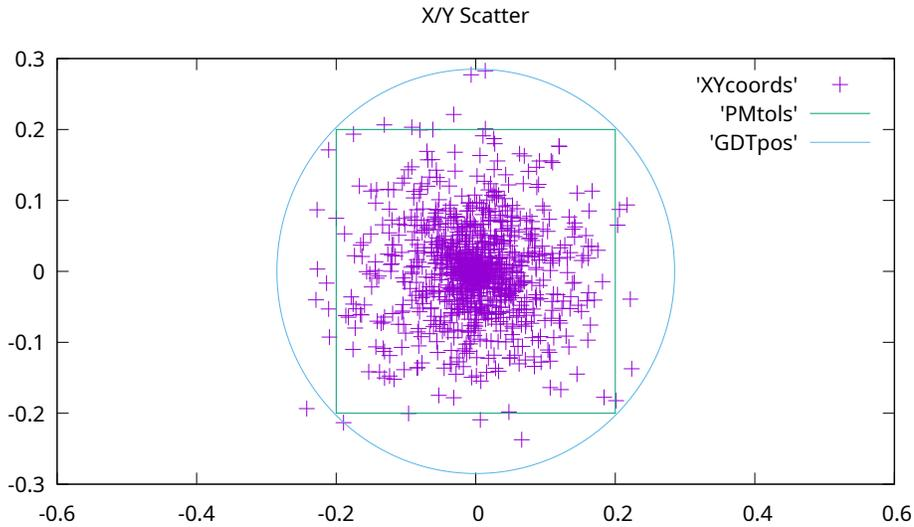
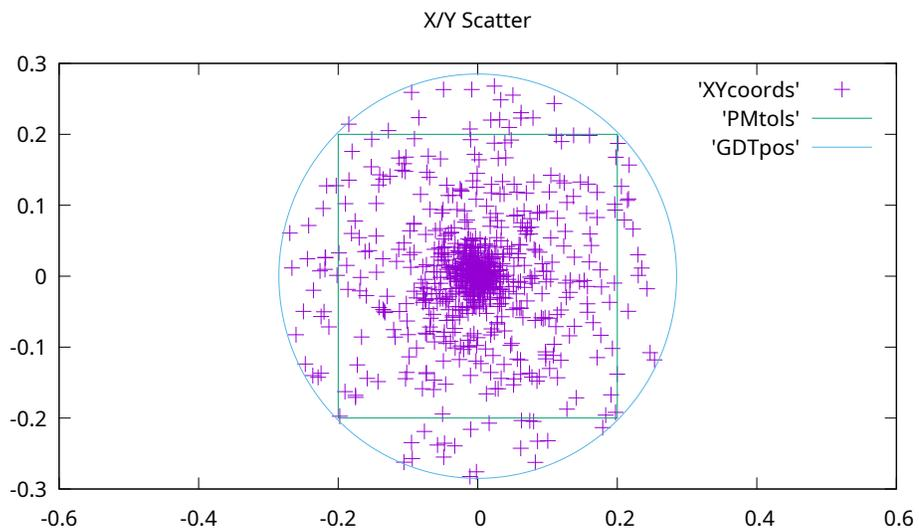
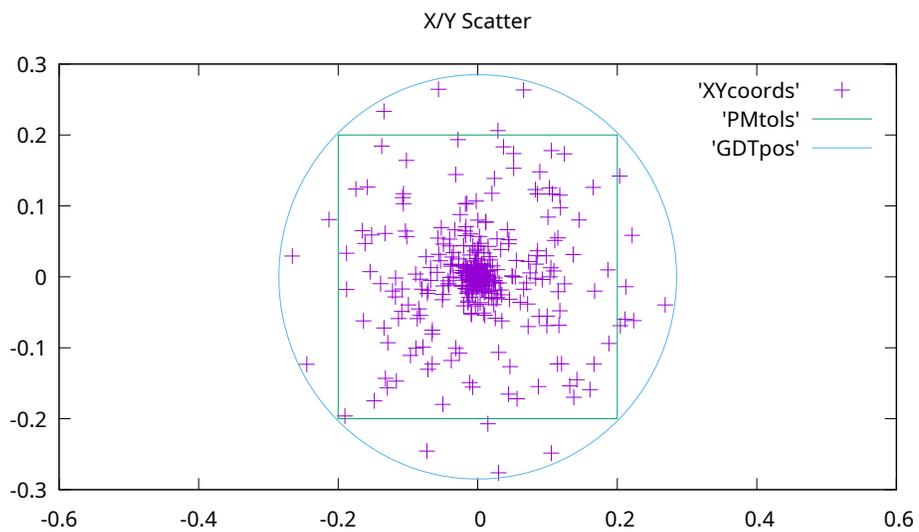

Figure 2: Normal Scattered Data
Figure 3: Exponent Distribution $R^{2.8}$
Figure 4: Exponent Distribution R^9
The positional tolerance has been calculated as $\varnothing 0.570$. On Figure 2 , there are 24 holes outside the \pm tolerance range, out of 1000 total.³
We are evaluating the Normally scattered data in Figure 2 .
1. The first we can do is examine Figure 2 and look for holes located outside 3σ . 3σ has been arbitrarily set to GD&T positional tolerance, shown as the circle on Figure 2 . 99.7% of the data should be inside the circle, and 0.3% should be outside it. By observation, on most runs of this program, we see that holes are outside the 3σ circle.
We have three columns, Normal, Match 1σ , and Match 2σ . We want to match values from authentic Normal data. Exponent values were punched in and tested. As can be seen from Figure 3 and Figure 4 , the scattered data do not look like Normal scattered data. Exponents can be selected which match certain parts of Normal distribution.
Assume for the moment that the positional tolerance called up is set to the process 3σ . It can be seen from Figure 2 that the \pm tolerance will capture around 98% of the correctly located holes. It is good design practice to ensure that fabrication capability is well within the required tolerances, when ensures that the \pm tolerances capture even more valid data. This is not a good case for positional tolerancing.
I cannot find this written up anywhere. A quick and dirty way to generate Normal-like distribution is to generate random numbers between zero and one, and take them to some exponent. The exponent values cluster towards zero. As can be seen by comparing the Normal curve (Figure 2) with Figure 3 and Figure 4), the exponent curves are not that good a model. If you are interested in how many values are out close to the positional tolerance circle, exponent distribution provides a conservative result.